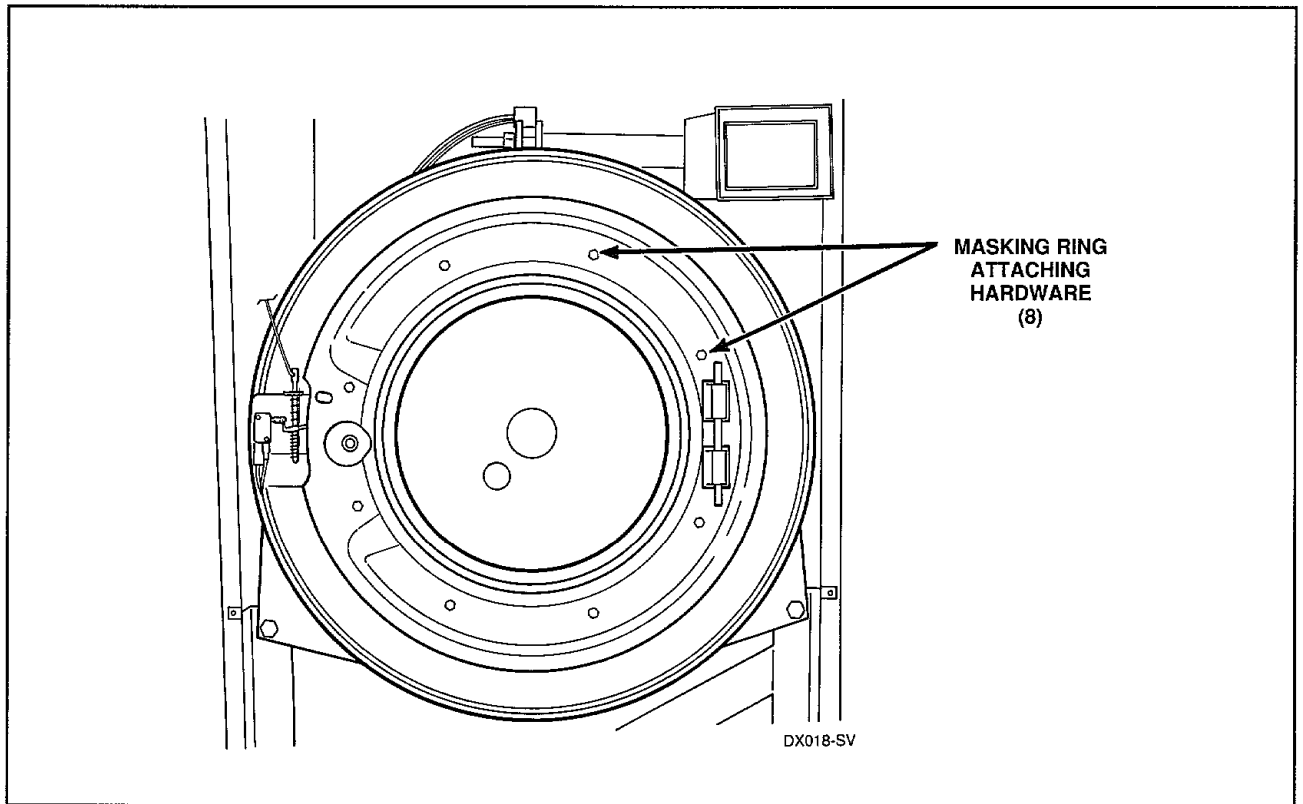

Figure 6
- e. Remove eight screws and washers holding masking ring to front of outer tub, *Figure 6*.